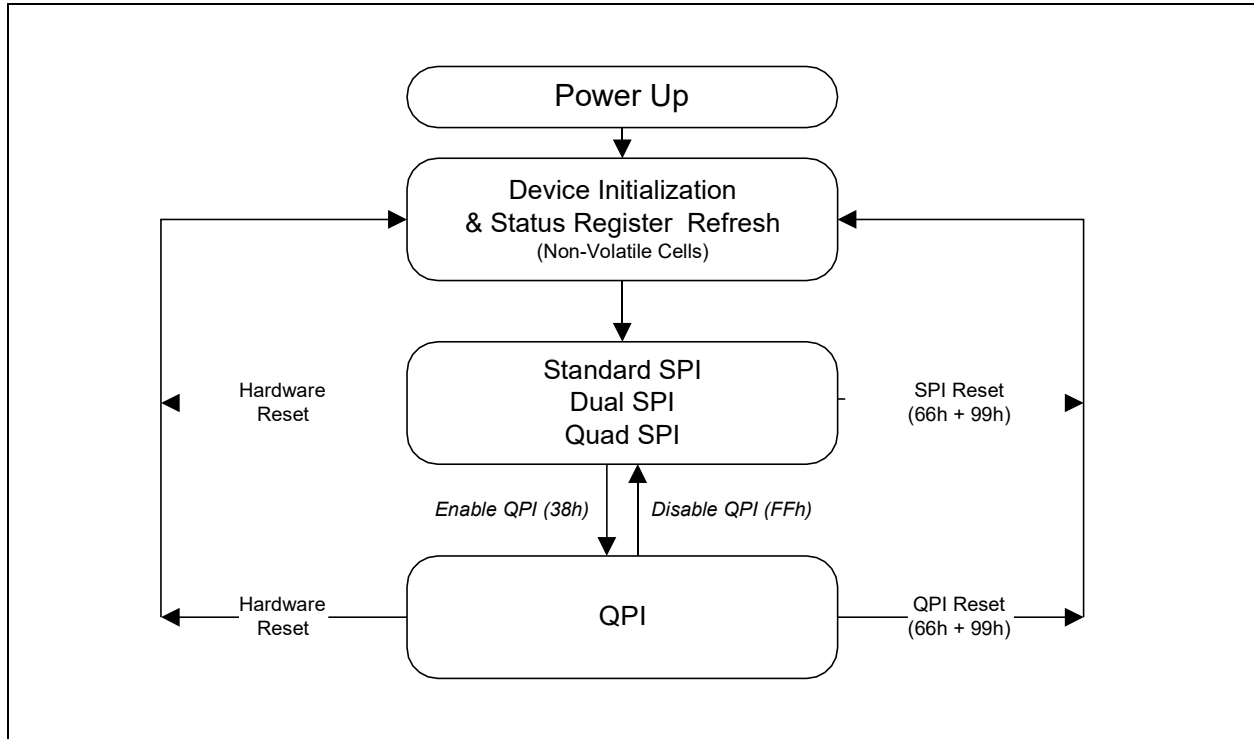

Figure 3. W25Q128FV Serial Flash Memory Operation Diagram
The W25Q128FV supports Quad Peripheral Interface (QPI) operations only when the device is switched from Standard/Dual/Quad SPI mode to QPI mode using the “Enter QPI (38h)” instruction. The typical SPI protocol requires that the byte-long instruction code being shifted into the device only via DI pin in eight serial clocks. The QPI mode utilizes all four IO pins to input the instruction code, thus only two serial clocks are required. This can significantly reduce the SPI instruction overhead and improve system performance in an XIP environment. Standard/Dual/Quad SPI mode and QPI mode are exclusive. Only one mode can be active at any given time. “Enter QPI (38h)” and “Exit QPI (FFh)” instructions are used to switch between these two modes. Upon power-up or after a software reset using “Reset (99h)” instruction, the default state of the device is Standard/Dual/Quad SPI mode. To enable QPI mode, the non-volatile Quad Enable bit (QE) in Status Register-2 is required to be set. When using QPI instructions, the DI and DO pins become bidirectional IO0 and IO1, and the /WP and /HOLD pins become IO2 and IO3 respectively. See Figure 3 for the device operation modes.